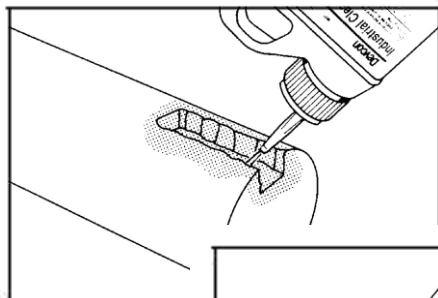

Figure 2
2. Dovetailing the ends of the worn area would make the application lock into place and help prevent the epoxy from being sheared or forced out of the threaded area (**Figure 2**).